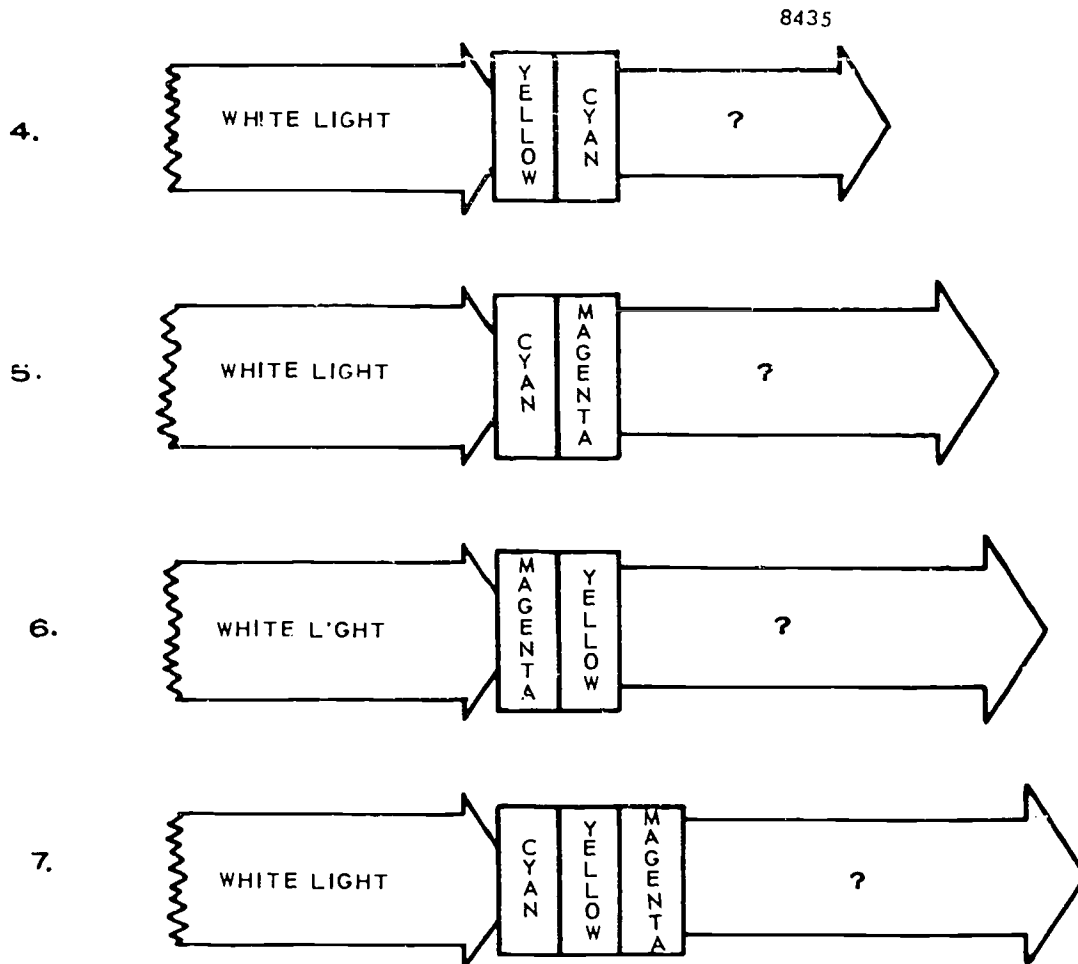

Figure 2-21. Subjective primary filter transmission (objective 294, exercises 4–7).
State which primary colors are transmitted by the filters in items 1–3, below and those in terms 4–7 on figure 2-21.